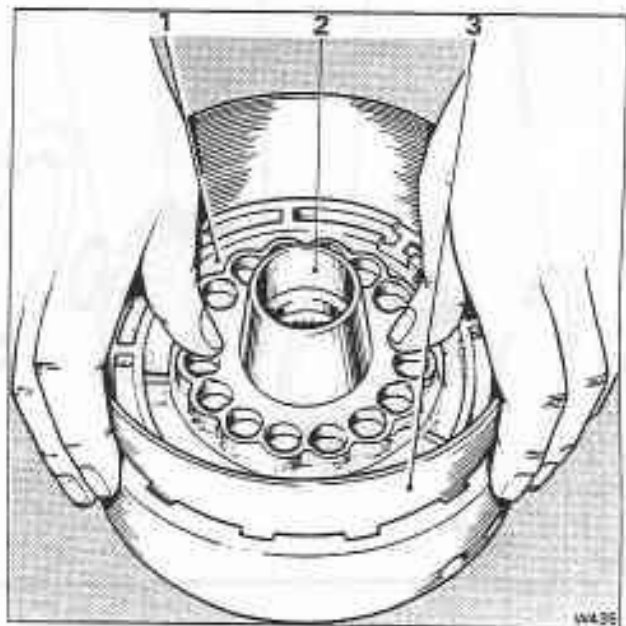

Fig. T19-7 Fitting the forward clutch piston
- assembly into the forward clutch housing (see fig. T19-7).